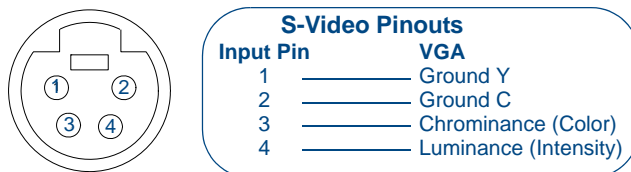

FIG. 47 S-Video Pinouts
FIG. 47 describes the pinouts on the S-VIDEO connector:
1. Connect an S-Video cable (**FG-UDM-SVID01**) to the 4 pin **S-Video** connector (FIG. 47) on the UDM-RX02N.